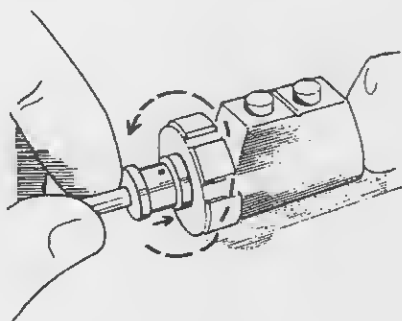

Figure 2-5. Cutter/bur insertion.
b. Firmly insert the cutter/bur with a push/twist motion. Refer to figure 2-5.